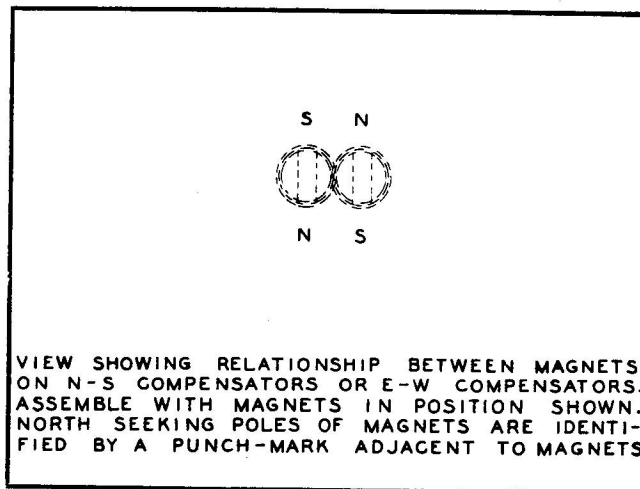

Figure 2-4. Position of Magnets
j. Tighten four screws (28).
k. Insert E-W magnet gear assembly (22) into case so dot stamped adjacent to magnet is up. Install other E-W magnet gear assembly (21) with dot displaced 180° from other installation. Turn in bearing screws (20) and adjust end play to 0.005 inch. Lock with nut (19). The gear assemblies should turn freely but not loosely.
l. Position E-W magnet gear assemblies so magnets are in a neutral position (parallel). (See figure 2-4.)
m. Insert E-W drive gear (14) through drive gear
n. Insert N-S drive gear (15) through drive gear washer (16) and into case so dot stamped on slotted end is next to dot on front cover (27). Position two N-S magnet gear assemblies (17 and 18) so magnets are parallel and dots are 180° apart. Insert gears in case in this manner. Make certain N-S drive gear (15) does not shift position during installation. (See figure 2-4.)
o. Replace four spring washers (13) with concave side facing rear of case.
p. Slide grommet (12) over lead wire, position it between compensator plate (9) and case. Secure compensator plate with two screws (10) and lockwashers (11).